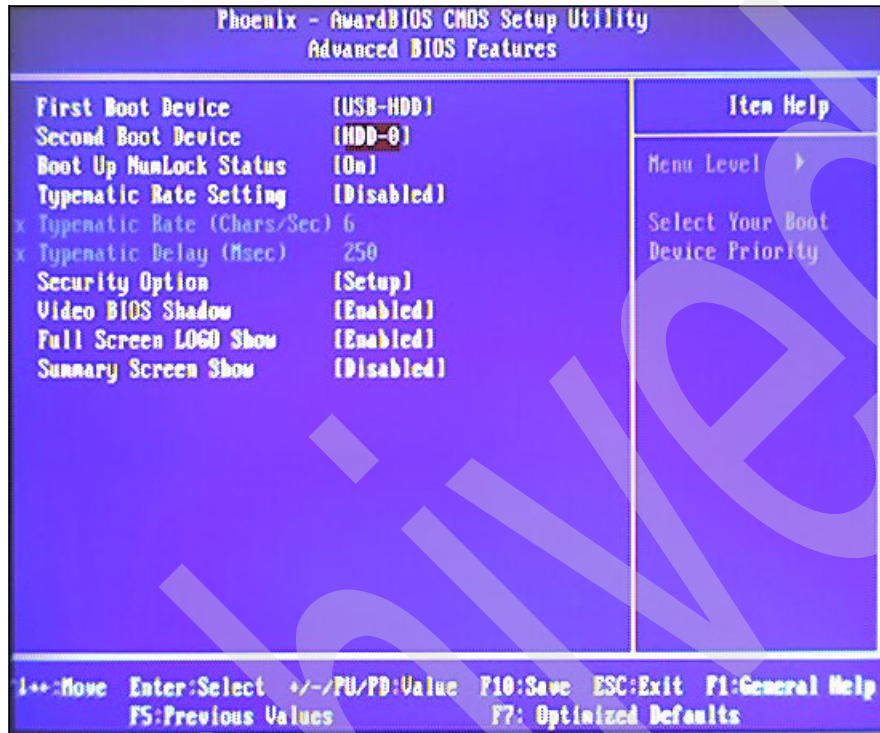

Figure 4-44 Boot devices
10. In the Advanced BIOS Features screen (Figure 4-44), ensure the following: